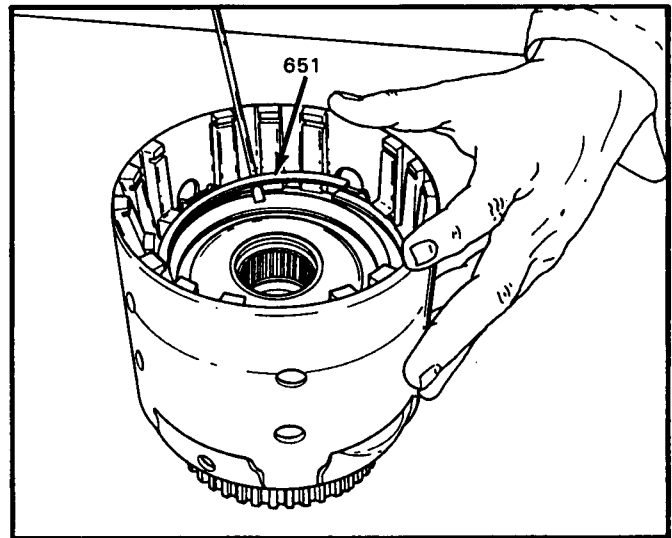

Figure 110
5. Remove the forward clutch snap ring using a screwdriver (See Figure 110). **USE CAUTION WHEN REMOVING THE SNAP RING AS IT IS EXTREMELY STIFF.**